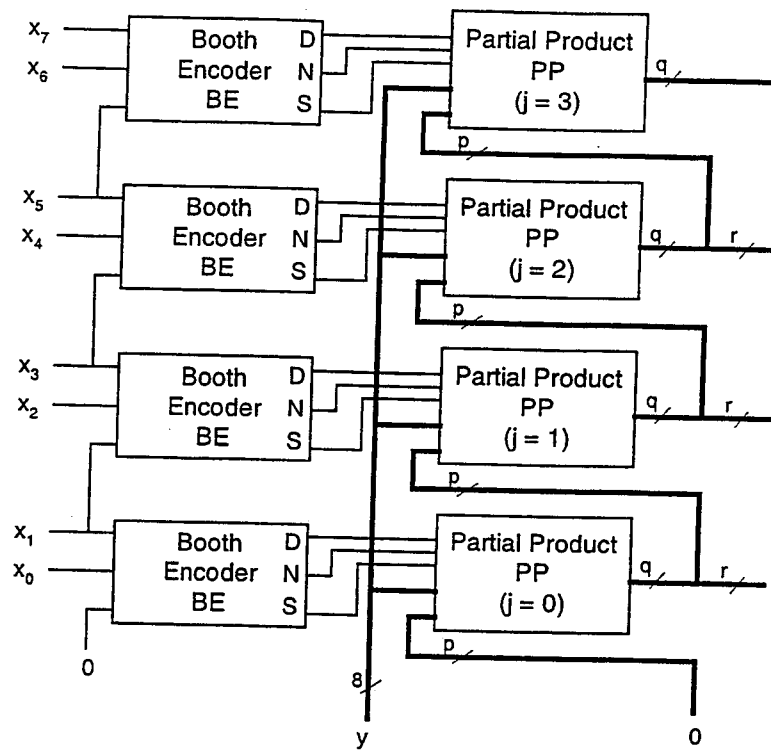

Figure 4.1
Figure 4.1 shows a block diagram of a modified Booth encoded parallel multiplier for $N=8$ with 4 identical stages. Each stage consists of two modules: the Booth encoder module (BE) and the partial product module (PP). The BE module takes three bits from the multiplier x and performs modified Booth encoding. The PP module calculates $y \times 2^{2j} (-2x_{2j+1} + x_{2j} + x_{2j-1})$ for a particular value of j and adds it to the cumulative total.